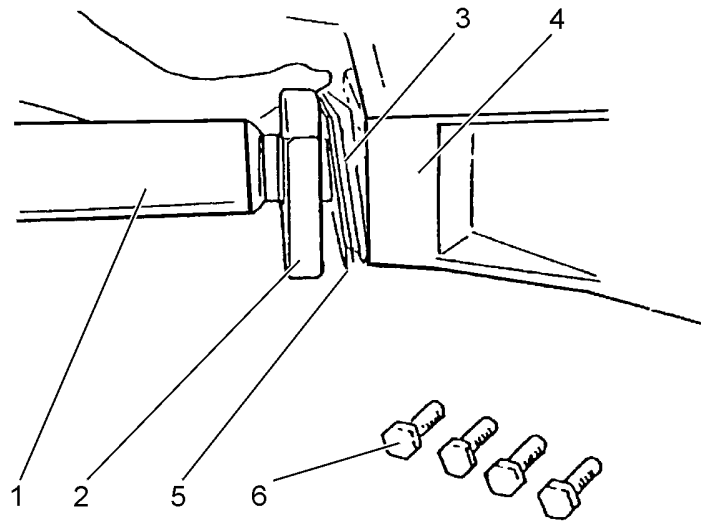

Fig. 17.5. Installing Diagonal Strut to Blade Socket
5. Insert the ball of diagonal strut (1, Fig. 17.5) to blade socket (4) and connect the diagonal strut cap (2) to the socket with the bolts (6). Be sure to tighten the bolts (6) evenly. Determine the number of shims (5) needed to fill the gap between cap (2) and socket (4), then add one additional shim to provide clearance. Remove the bolts (6) and add the amount of shims required. Install the bolts (6) and torque to 1050 [Nm]. Repeat this procedure on the opposite diagonal strut.
2. Remove the bolts (6, Fig. 17.5) securing cap (2) to socket (4) and remove the strut (1) and shims (5).
3. Position the diagonal strut (2, Fig. 17.1) so that the eye is inside the bracket on the side of the push arm and the strut ball in the socket. Connect the strut socket cap (2, Fig. 17.5) to the socket (4) with the four bolts (6). Be sure to tighten the bolts evenly. Determine the number of shims (5) needed to fill the gap between strut socket cap and socket then add one additional shim to provide clearance. Remove the bolts, add the amount of shims required and install and torque the bolts to 1050 [Nm].